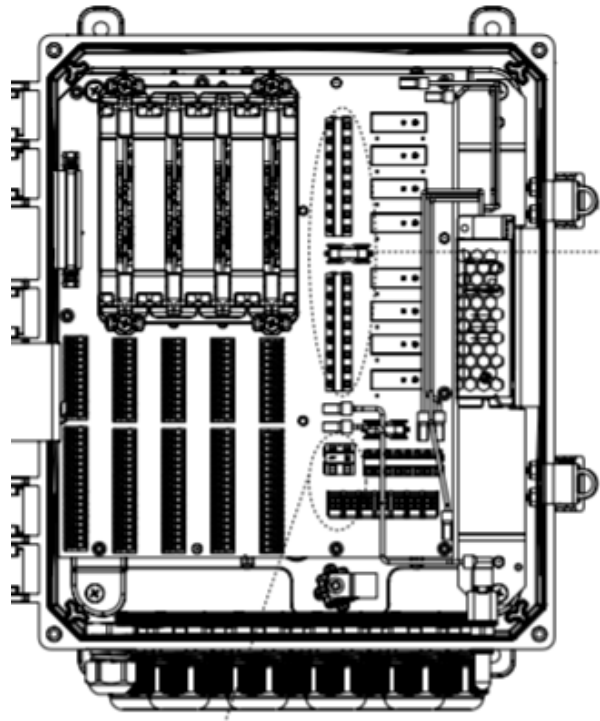

Figure 1
1. Open the front panel of the controller **AFTER POWER HAS BEEN REMOVED** by loosening the two #10 screws on the right-hand corners of the enclosure lid. Unlatch the two latches.. The Relay Board as shown in Figure 1 will have a ribbon cable and a number of discrete wires attached to it. These will have to be removed and later reinstalled on the new board. Some of these wires will be under a plastic cover (fastened with three captive flat head screws) which needs to be removed first.